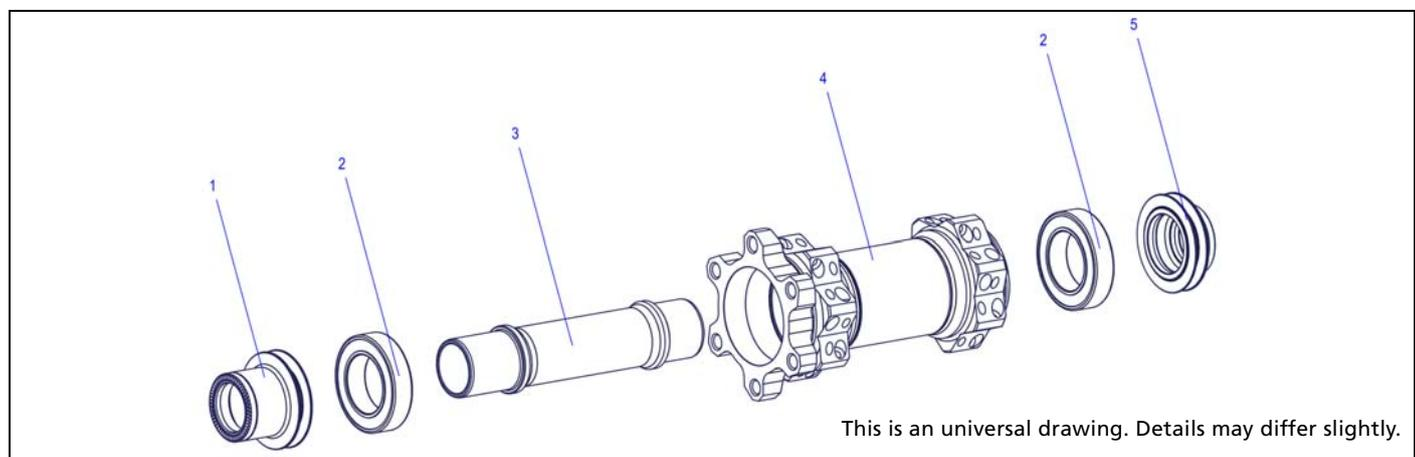

Figure 4-1: 180, 240 front wheel hub
1. Clamp one of the adapters (fig. 4-1/1, 5) into a vice.
1. Slide the disassembly tool onto the axle (fig. 4-1/3).
2. Tap the first bearing (fig. 4-1/2) out of the hub shell using the disassembly tool and a hammer.
5. Tap out the second bearing (fig. 4-1/2) using the disassembly tool and a hammer.
3. Put the axle (fig. 4-1/3) onto the mounting tool.
5. Slightly grease the bearing (fig. 4-1/2) and put it onto the disc side with the colored side facing outwards.
10. Slightly grease the bearing (fig. 4-1/2) and put it with its colored side facing outwards onto the non disc side.
**1.** Grease the bearings and the inner surface of both adapters (fig. 4-1/1, 5).
**2.** Put both adapters (fig. 4-1/1, 5) onto the hub by hand.